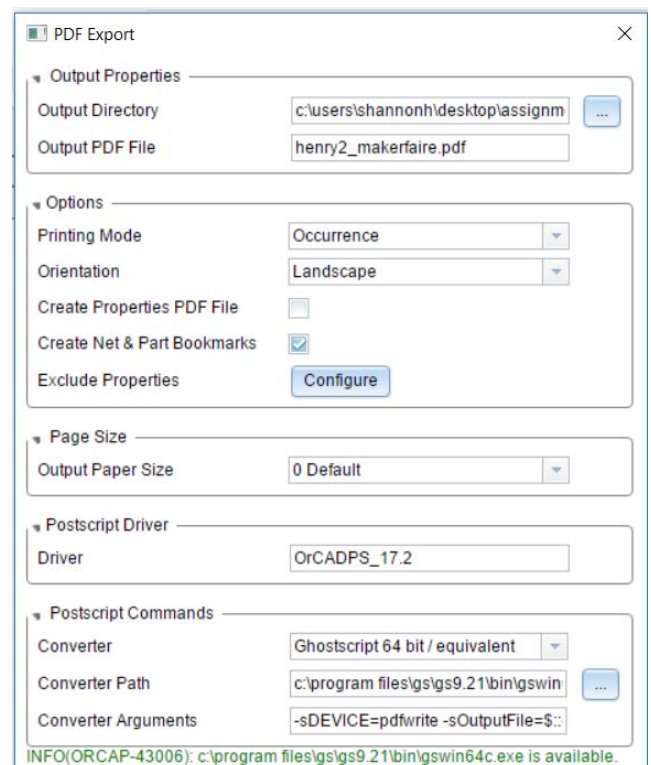

Figure 15: Smart PDF Settings
3. Set converter path to the path of the gswin64c.exe file and use the default settings shown in Figure 15